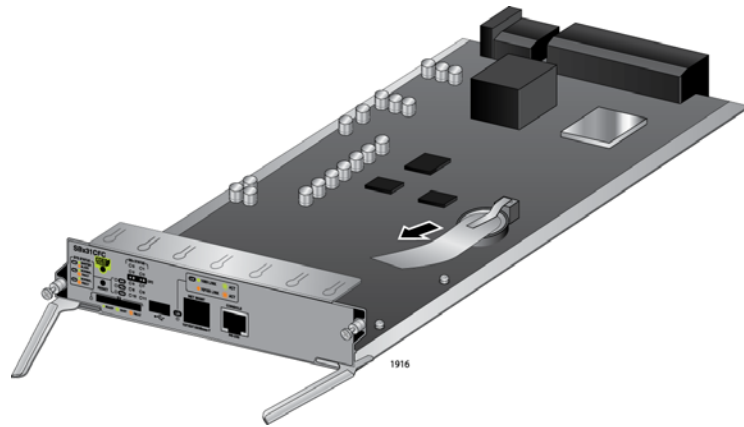

Figure 72. Removing the Battery Insulator
4. Remove the battery insulator tab on the control card by sliding it out from between the battery and battery clip, as shown in Figure 72 on page 116.